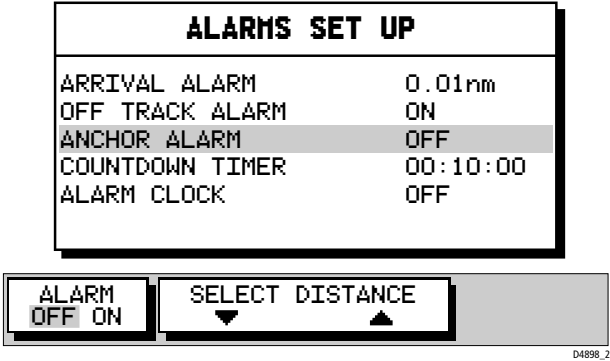

Figure 3-58: Alarms Set Up Menu
1. Press the **ALARMS** key. The Alarms Set Up list is displayed, showing the current settings as shown in *Figure 3-58*.
2. Use the trackpad up/down to navigate through the list. As each line is highlighted, the soft keys are updated to show the current settings and controls, as shown in *Figure 3-58*.